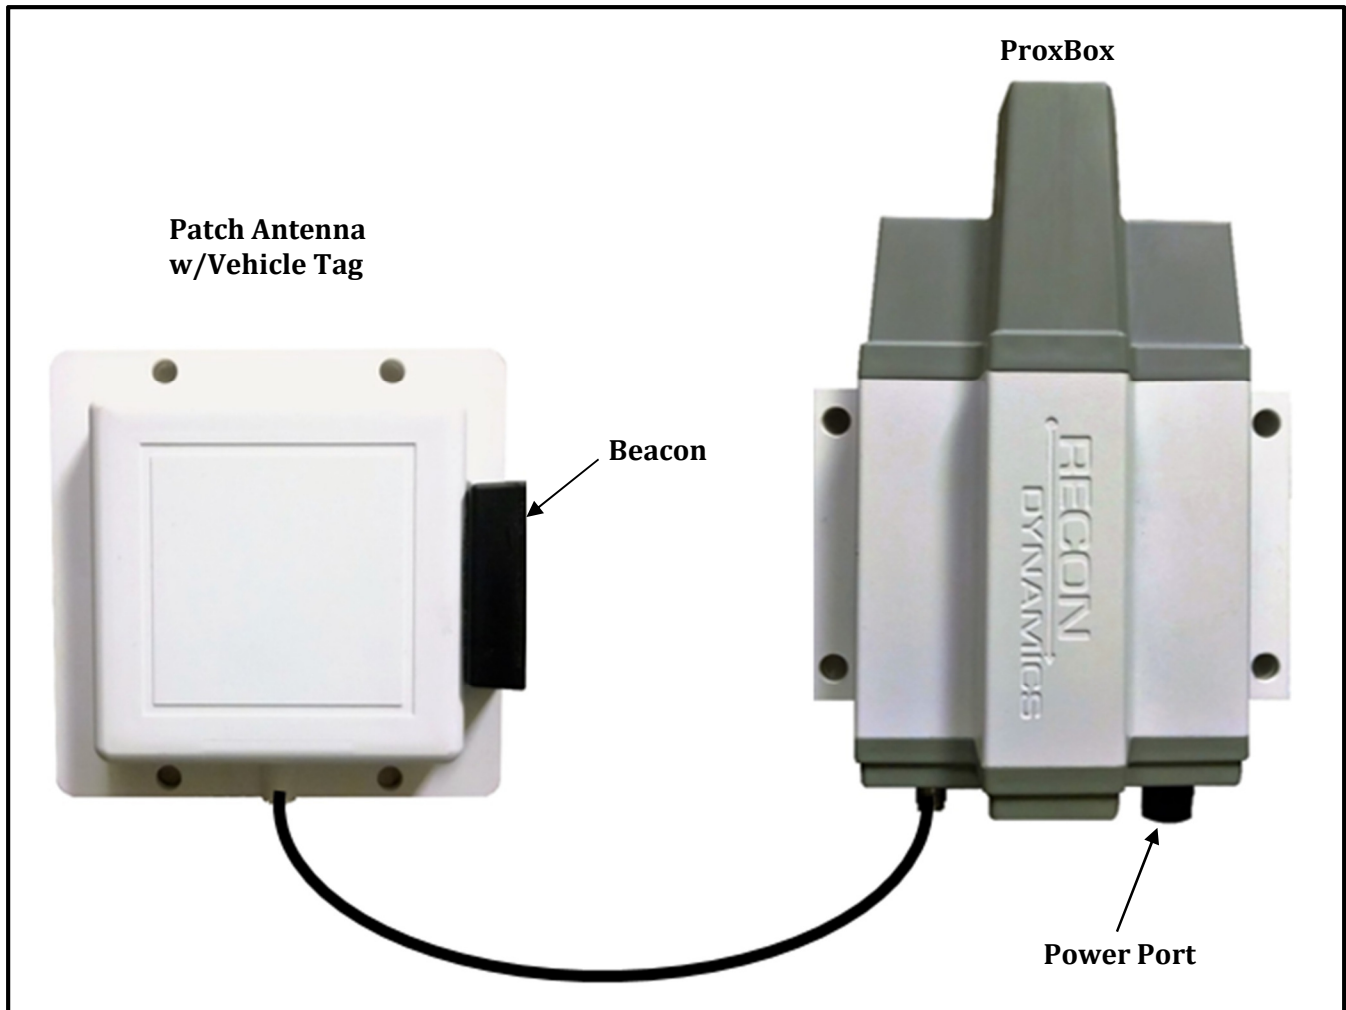

Figure 2
- Connect cable to ProxBox and hand tighten. Refer to Figure 2 for ProxBox port identity.
- Connect the power connector to the ProxBox and hand tighten. Once the power cord is fit over the power connector a final  $\frac{1}{4}$  turn is required to secure the power connection. Refer to Figure 2 for ProxBox port identity.